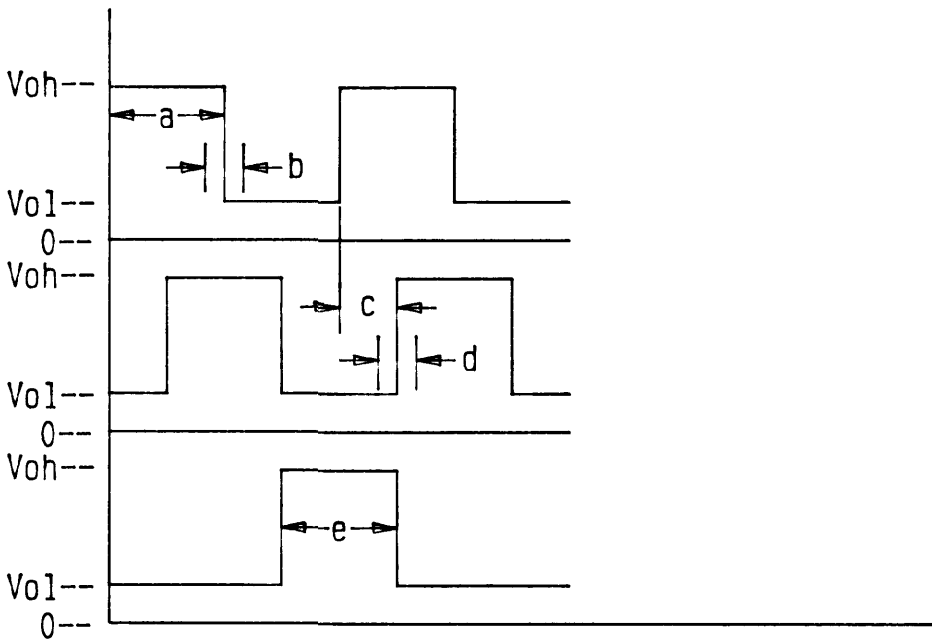

FIGURE 3
2.) THE OUTPUT SIGNALS, PHASE RELATIONSHIP AND DUTY SIGNAL ARE FACTORY PREALIGNED AND SHOULD NOT REQUIRE ANY ADJUSTMENT. SEE FIGURE 3. IF THE OUTPUT SIGNALS DO NOT MEET PUBLISHED FACTORY SPECIFICATIONS, IT COULD BE DUE TO AN IMPROPERLY SET AIR GAP. IF THE UNIT IS FOUND TO BE OUT OF PUBLISHED SPECIFICATIONS, THE AIR GAP SHOULD BE CHECKED TO INSURE THAT IT WAS SET PROPERLY DURING THE INSTALLATION PROCEDURE.